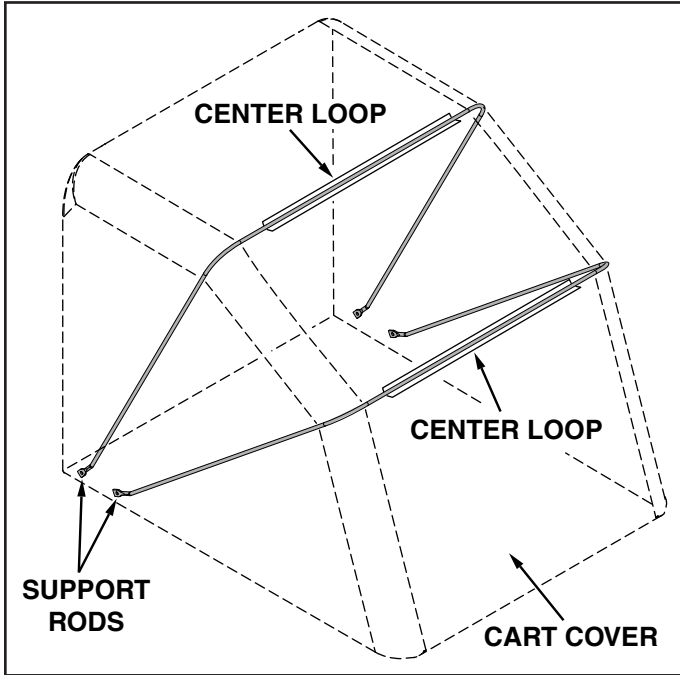

FIGURE 20
- Slide two of the lower support rods through the center loops located in the top of the cart cover as shown in figure 20.